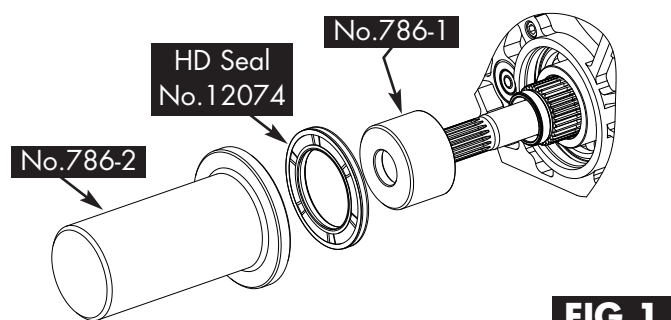

FIG 1
4. Gently slide new seal with the garter spring facing the Trans case over cap No. **786-1** and up to its bore. **See Fig 1.**
5. Next gently place Tool No. **786-2** over main shaft and up to new seal. With your brass hammer gently tap seal into its bore until it is making contact with trans case. **See Fig 1.**